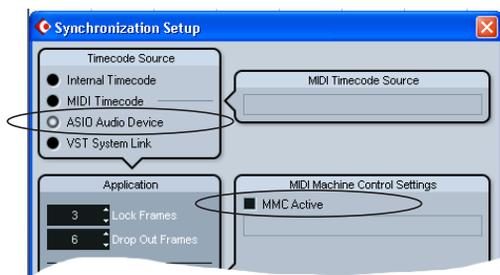

Figure 7-5: Setting up sample-accurate sync via ASIO 2.
- 6 If you don’t have an MMC synchronizer (Figure 7-5), initiate playback from the sample-accurate sync source (ADAT, DA-88, etc.) Transport control is handled by the sample-accurate sync source.